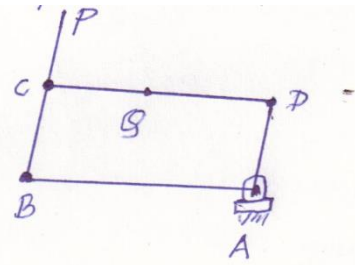

Figure 3
- (b) A pantograph mechanism shown in figure 3 has following dimensions: